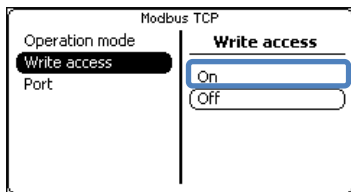

Figure 20. **Separate** Activation of Write Access in the HMI interface of the inverter
- ✓ Carry out the configuration of the portal profile using the "Configuration" button (see Figure 20).